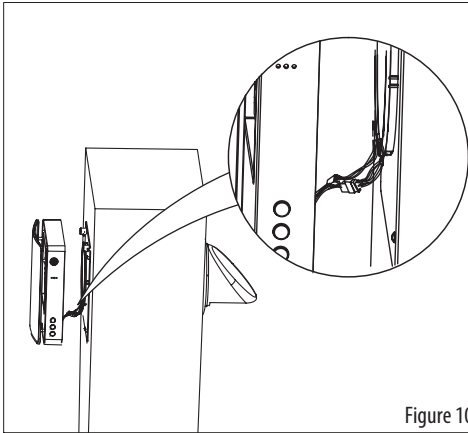

Figure 10
9. Connect the adapter wire from the back of the ventilation unit to the wiring of the fan and temperature sensor exposed by the inner duct in the wall (Figure 10).